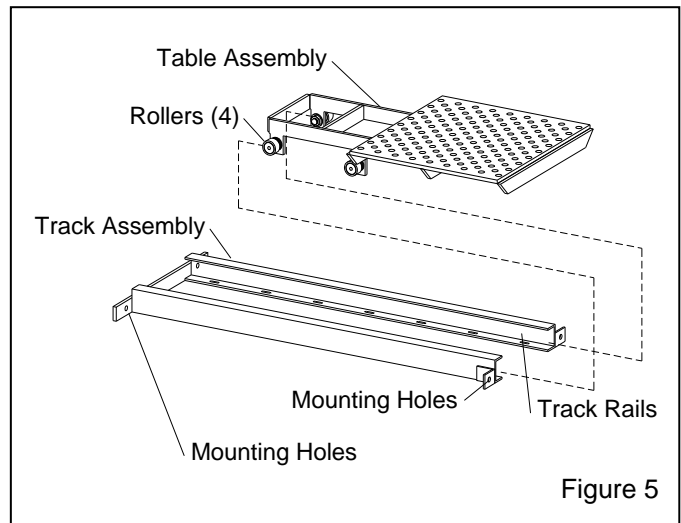

Figure 5
**3.3.2** Combine the table assembly and track by sliding the table assembly rollers into the track channels, as shown in Figure 5.